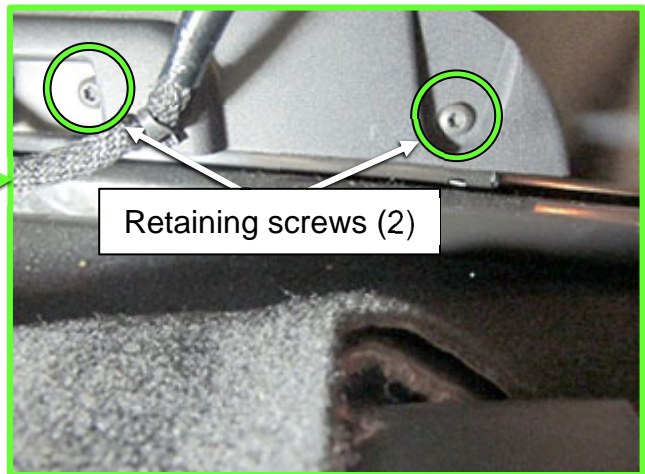

Figure 6
6. Remove the two (2) Driver's Seat Slide Finisher Inner retaining screws (Figure 6).